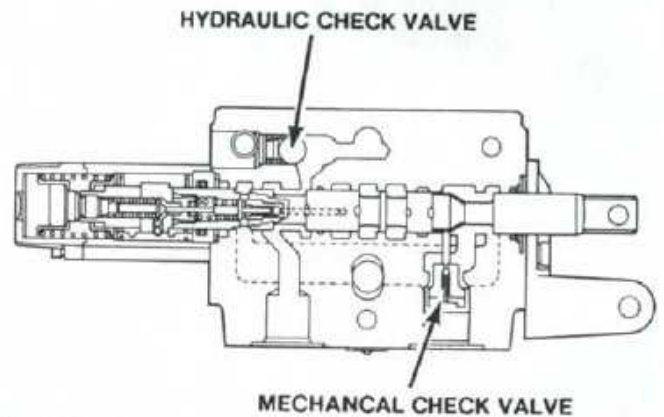
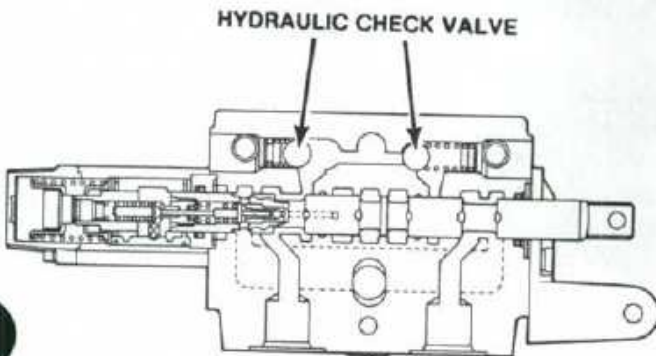

Fig. 170—Sectional view of Bosch No. 0521609006 valve equipped with one hydraulic check valve and one mechanical check valve.
Fig. 169—Sectional view of Bosch No. 0521609005 valve equipped with two hydraulic check valves.
**NOTE:** Two types of Bosch remote auxiliary valves are used. Bosch No. 0521609005 (Fig. 169) is equipped with two hydraulic check valves. Bosch No. 0521609006 (Fig. 170) is equipped with one hydraulic check valve and one mechanical check valve located in the raise work port. To identify the valves, check the number on the plate between the work ports. Disassembly of both valves is similar, except on valves so equipped, the mechanical check valve must be removed first to prevent damaging the valve spool.